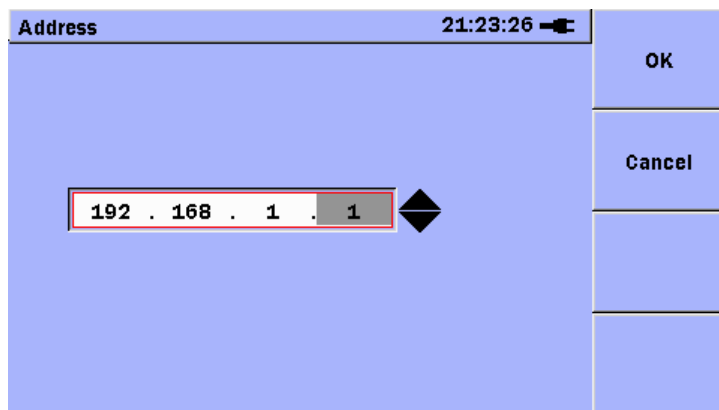

Figure B.1-6 Address Editor
2. Highlight and edit the remaining address fields (IP Address, Subnet Mask, and Default Gateway). With the highlight positioned on any address field, press the **Set** key and the address editor will be displayed, as shown in Figure B.1-6.